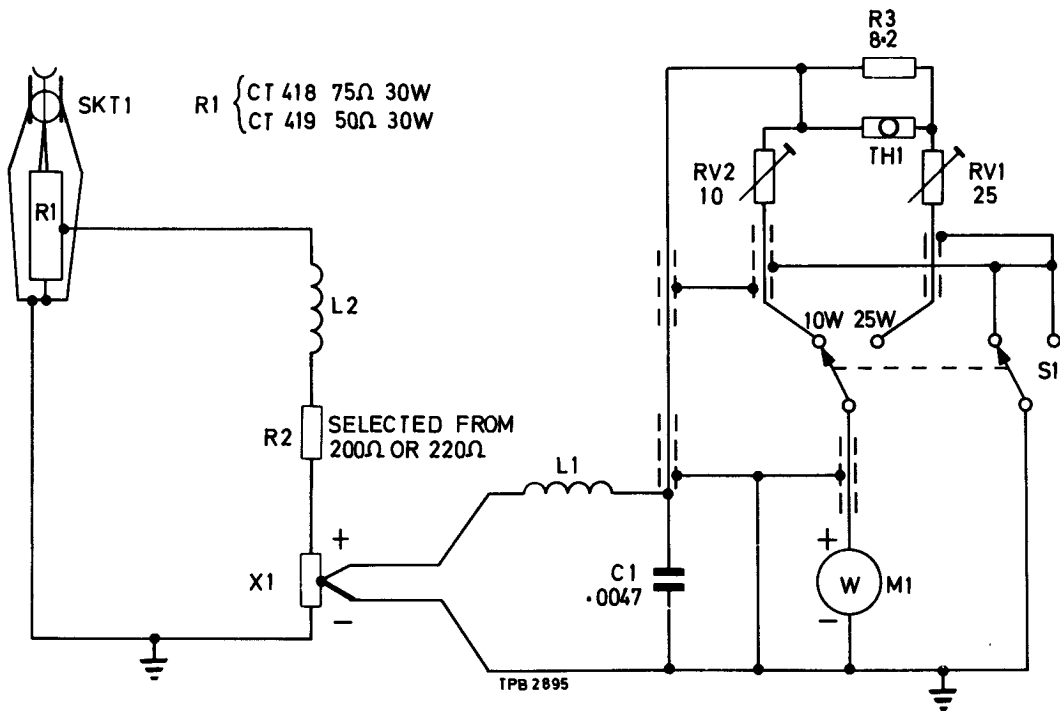

Fig. 5 Wattmeters CT418 and CT419 : modified circuit
5. Instruments with serial numbers prefixed 52555 and above have a thermistor, TH1, with a shunt resistor, R3, added in series with RV1 (Fig.5 ) to improve the temperature characteristic on the 25 W range.